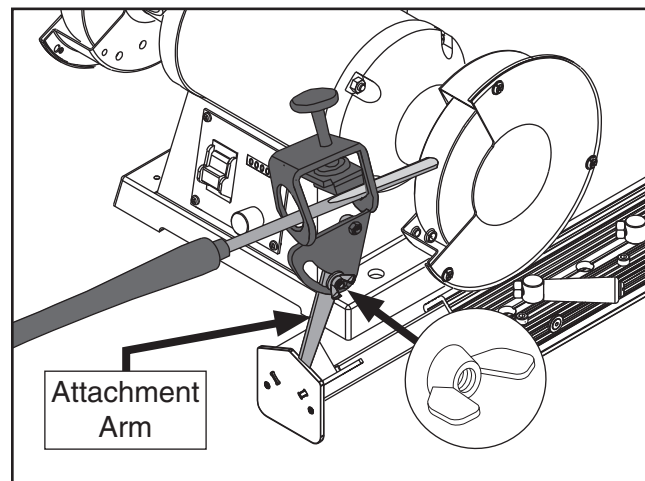

Figure 4. Gouge installed in attachment and positioned against grinding wheel.
4. Loosen wing nut shown in **Figure 4**, adjust attachment arm angle to match bevel angle against grinding wheel, then tighten wing nut to secure.